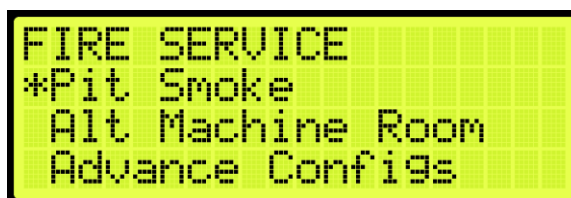

Figure 600: FIRE SERVICE Menu – PIT Smoke
2. From the FIRE SERVICE menu, scroll and select PIT Smoke (See Figure 600).